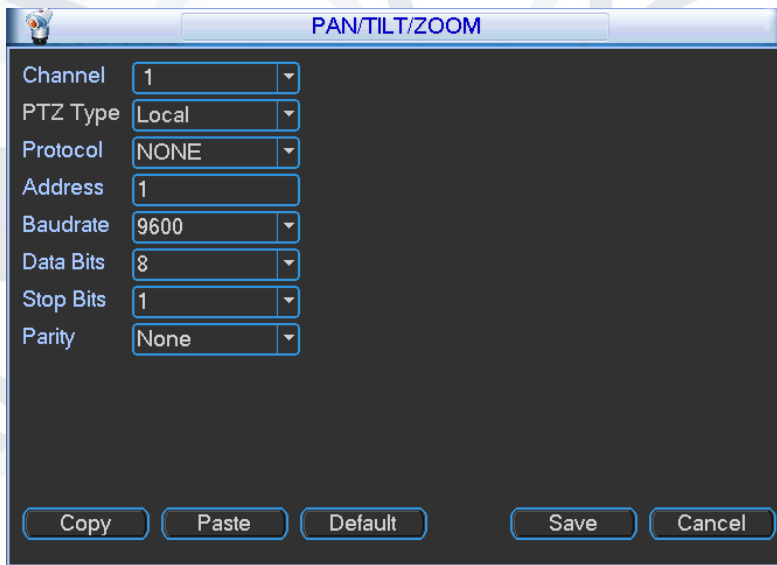

Figure 5-63
2. Decoder A (B) line connects with NVR A (B) line.
4. In the main menu, click setting, and then click the Pan/Tilt Control button. The interface is shown as in Figure 5-63. Here you can set the following items: